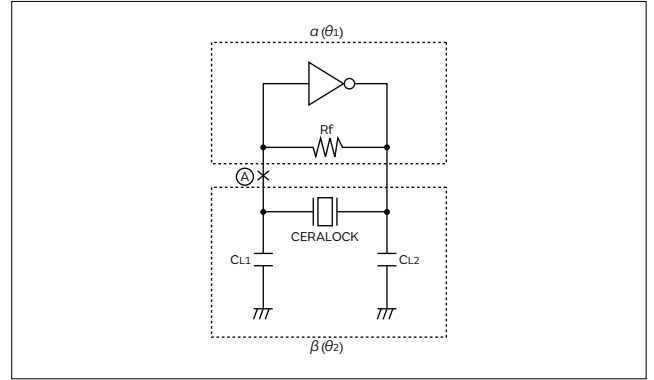

Fig. 2-8 Basic Oscillation Circuit with Inverters
Fig. 2-8 shows the basic oscillation circuit with inverter. In an open loop circuit by cutting at point (A), it is possible to measure loop gain  $G$  and phase shift  $\theta$ .